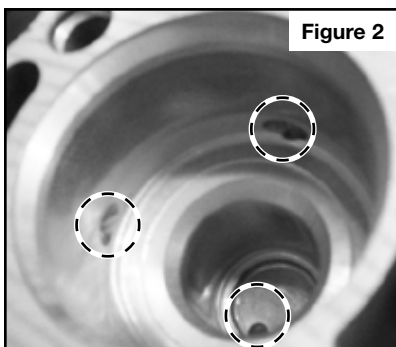

Figure 2
- a. Align the sleeve cutout with the feedhole coming in from the side of the bottom of the bore (**Figure 1**). Some applications will have the feedhole coming up from the bottom of the bore; in this case the sleeve does not need to be indexed (**Figure 2**).